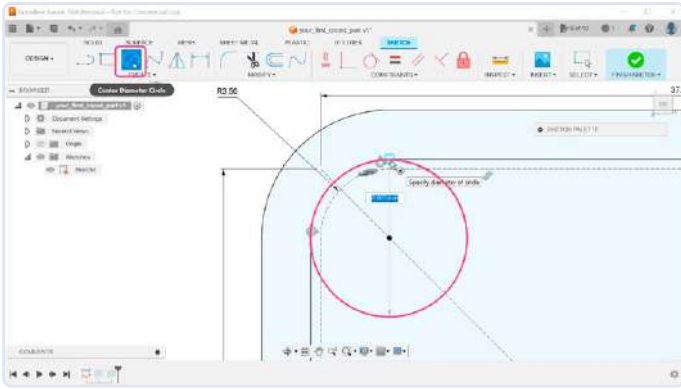

Figure 9: Positioning the center for one of the supports.
9) The module should sit on supports of some kind, and it would be nice if those supports had holes for screws. For these supports, we need another sketch, but, instead of creating a new one, we can reuse the one we have as well. To return to editing mode, double-click the *Sketch* item in the browser window. The holes in the PCB are 3 mm in diameter; we need to make the supports bigger than that. For ease of manufacturing, we can even make them big enough to touch the walls of the enclosure. Select the *Center Diameter Circle* tool from the toolbar and draw a circle in the top-left corner — large enough to touch the inner shell (8 mm diameter) (Figure 9).